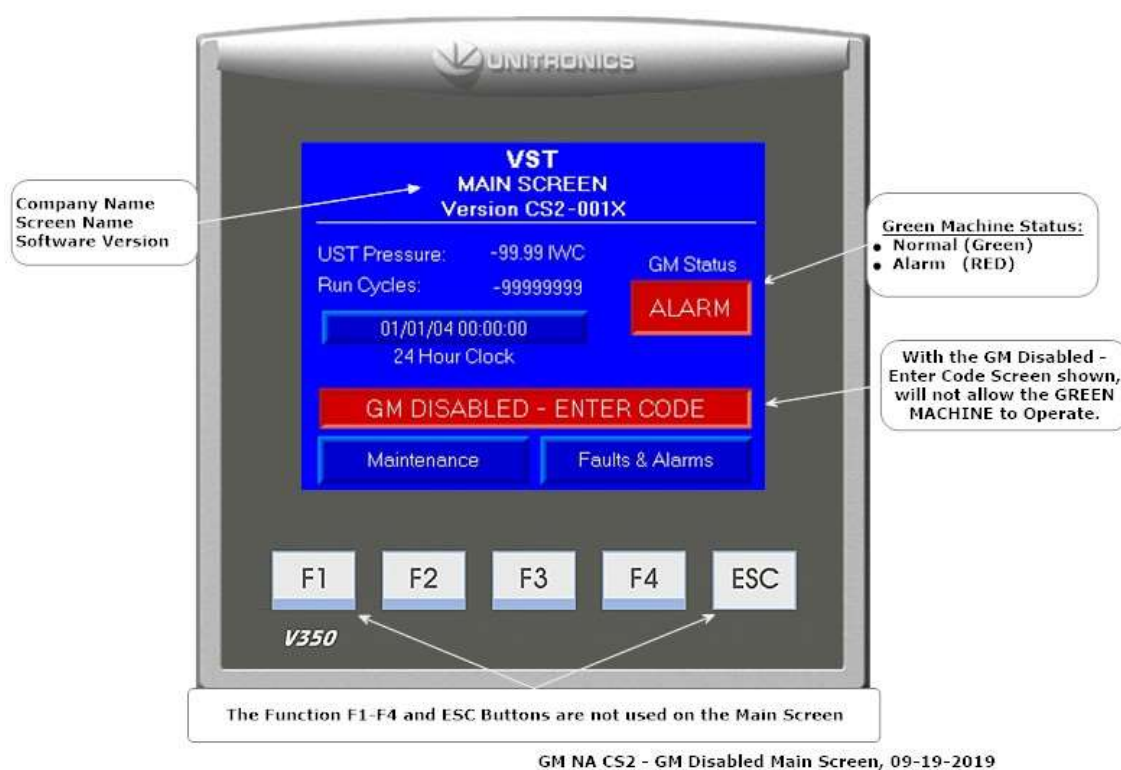

Figure 3-1: Control Panel PLC Main Screen - GM Disabled - Enter CODE Main Screen
4. **See Figure 3-1:** VST Control Panel PLC Main Screen – GM Disabled – Enter CODE Main Screen